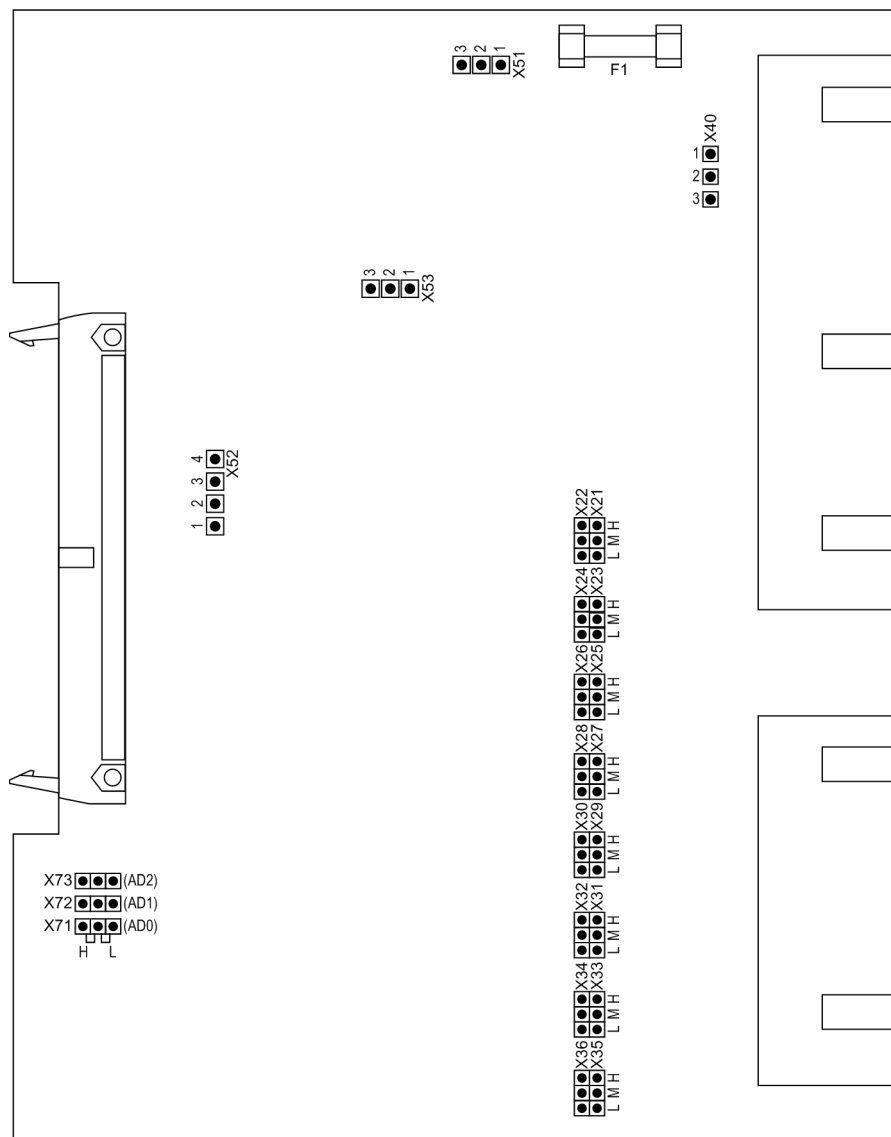
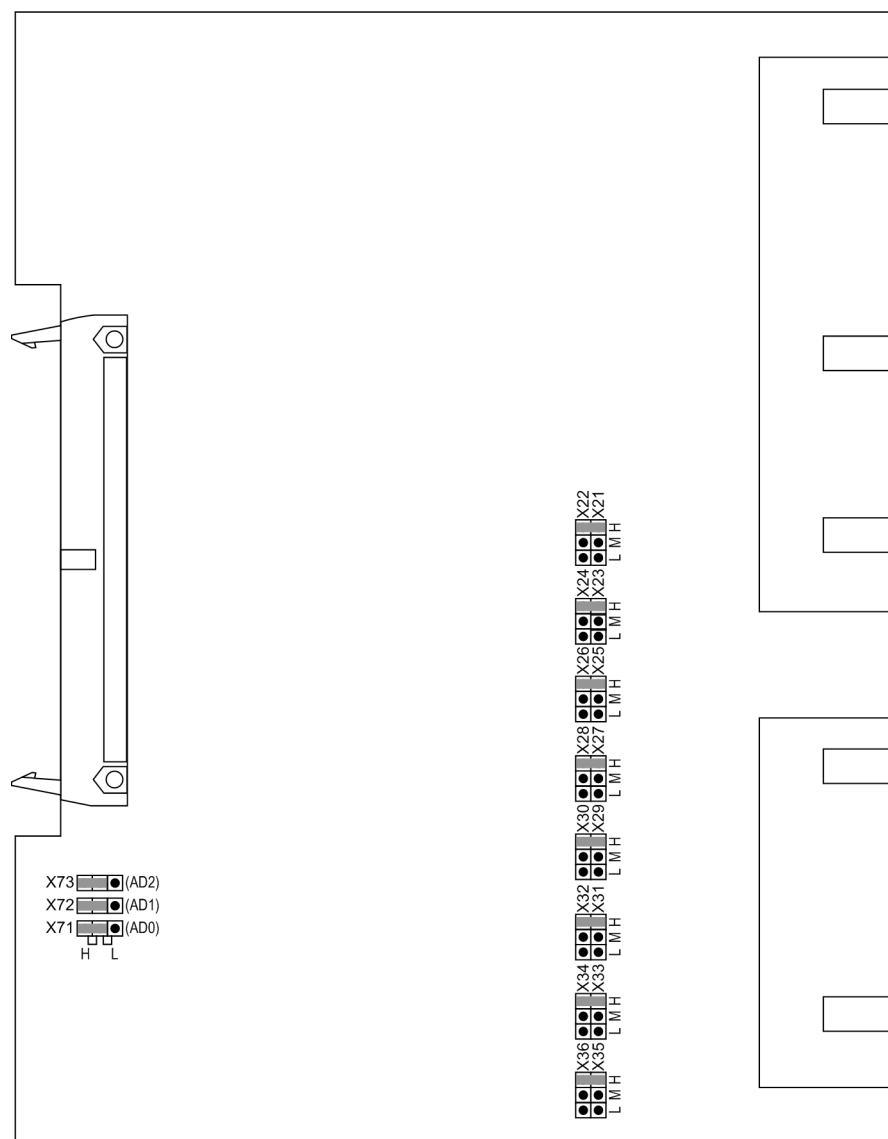
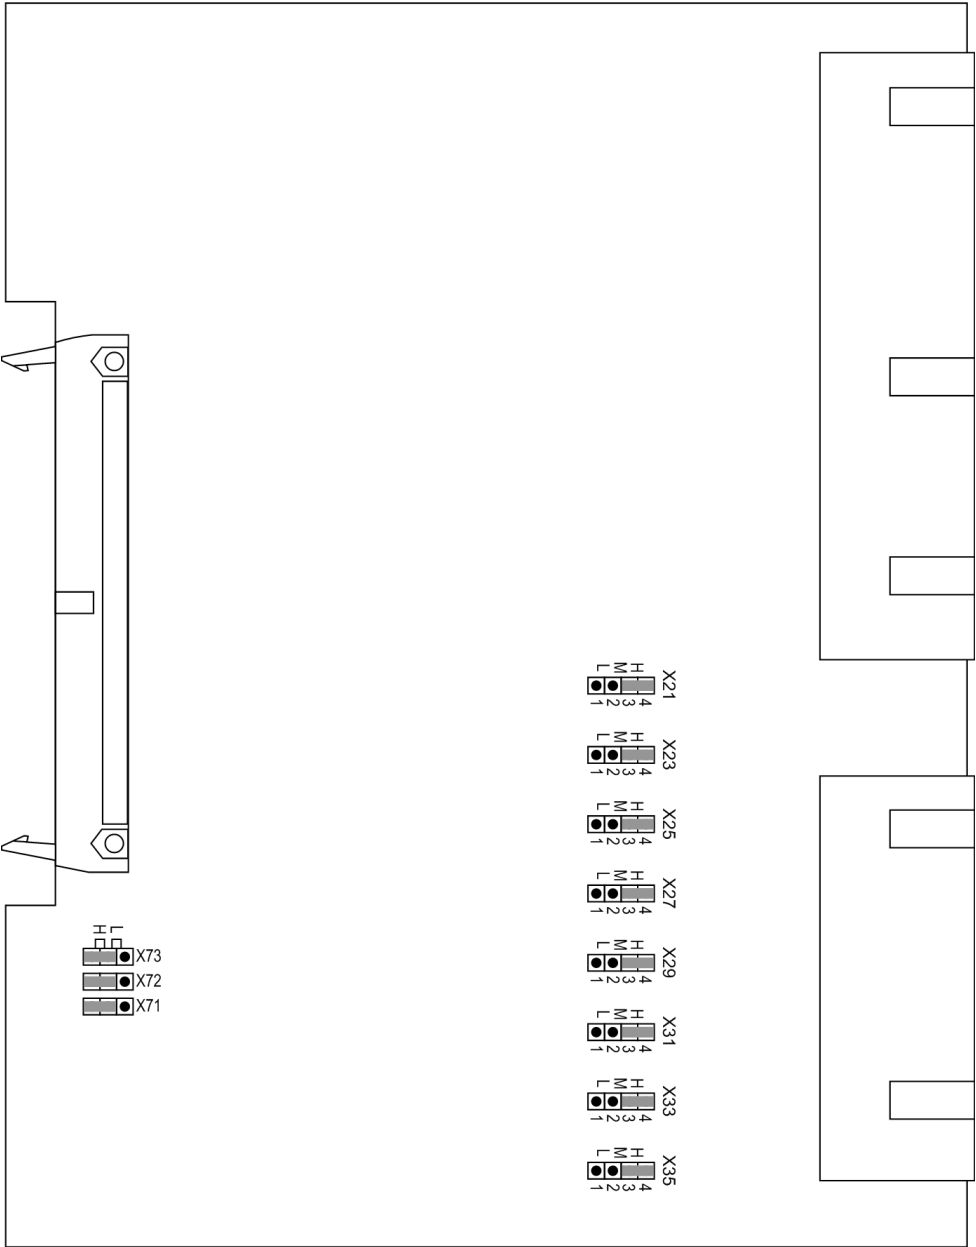

Figure 3-5 Input/output board C-I/O-1 with representation of the jumper settings required for the board configuration
Figure 3-6 Input/output board C-I/O-10 up to release 7SA522.../EE, with representation of jumper settings required for checking configuration settings
Figure 3-7 Input/output board C-I/O-10 release 7SA522.../FF or higher, with representation of jumper settings required for checking configuration settings
- Check the jumpers according to Figures 3-5 to 3-8, 3-12 to 3-14 and the following information. Change or remove the jumpers if necessary.
The layout of the PCB for the input/output module C-I/O-1 is shown in Figure 3-5, that of the input/output module C-I/O-10 up to release 7SA522.../EE in Figure 3-6 and that of input/output module C-I/O-10 for release 7SA522.../FF and higher in Figure 3-7.